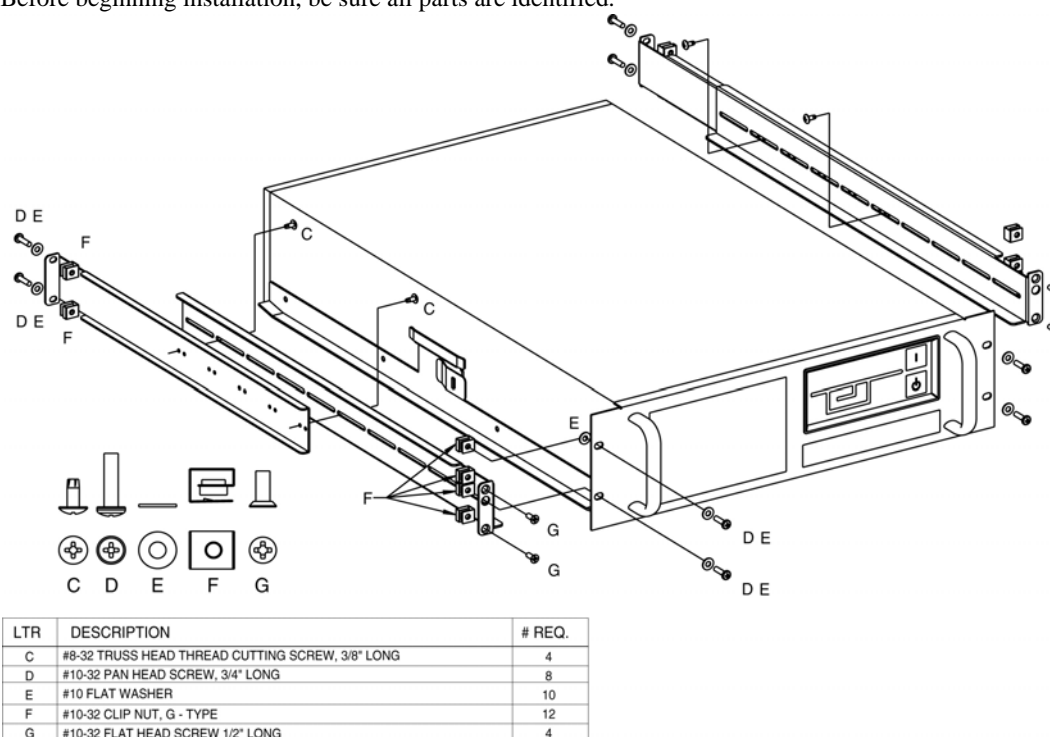

Fig. 2: Rack Kit Installation
(1) jumper for terminals S1-S2
- Linear Plus Rack-mount UPS contains (1) jumper for disabling the EPO circuit when not in use.
- Battery cabinets/racks contain (1) DC-power cable
- Linear Plus Rack-mount devices are equipped with (1) set of rails and rail guides (Fig. 2 on page 6)
- UPS devices only contain (1) user manual
1. Using Fig. 2, assemble the left rail and right rail guides. Leave enough slack to permit final alignments in the rack.